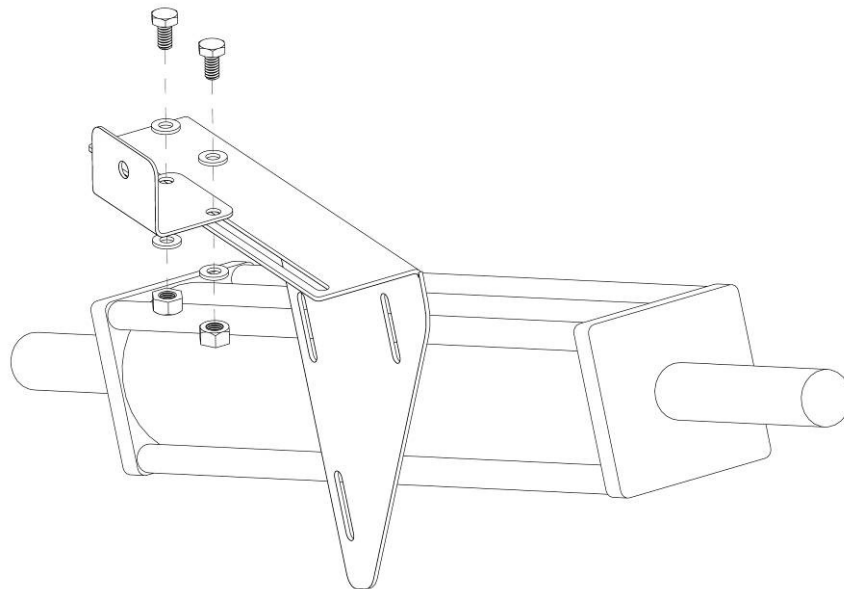

Figure 8: Installing the work switch bracket on top of an existing work switch bracket
4. To secure the work switch bracket to the existing bracket or air seeder, thread in order one steel washer and one 1/4" 20 steel locknut (352011-000040) onto the ends of each bolt (refer to Figure 8)